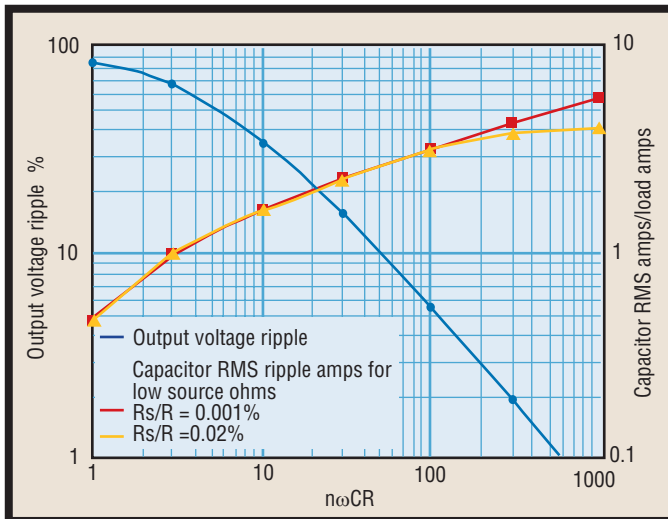

Fig. 2. Output voltage ripple and capacitor RMS ripple amps for low source impedance.
0.02% of load impedance. However, Schade did not include curves of bulk capacitor ripple current. Therefore Walker performed an analysis of the bridge rectifier circuit to determine its capacitor RMS ripple amps for $R_s/R = 0.02\%$, and also for $R_s/R = 0.001\%$, since some modern designs may have extremely low source impedance. For circuit design purposes, output voltage and ripple were also computed. The analysis was performed using the *Design Master™* analysis software (Professional Edition). Results are presented in graphical form in Figs. 2 and 3.